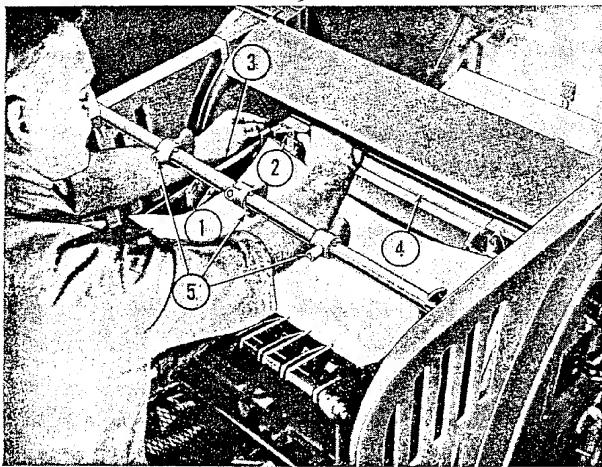

Figure 33—Setting Side and Rear Joggers
(2) HOW TO SET DELIVERY SIDE AND REAR JOGGER.—(See figure 33).—The side and
(b) Set the side jogger wings, (1) figure 33, according to length of sheet. Turn press ahead until sheet is dropped by delivery grippers onto delivery table. Set rear jogger wings, (2) figure 33, according to width of sheet.
(3) DELIVERY AIR NOZZLES, SHEET STOP FINGER BAR, AND DELIVERY GRIPPERS.—The three air blast nozzles, (5) figure 33, are provided to quickly settle the sheets down on the delivery table. The nozzles are adjustable on the air tube so that air blast may be directed as required. A separate line from the air pumps to the delivery air nozzles provides for constant air pressure. The number of nozzles used, as well as the positioning of the nozzles, is dependent upon the size of the sheet. They need only be used when running thin stock. When not in use, turn nozzles so that they face away from the delivery table.